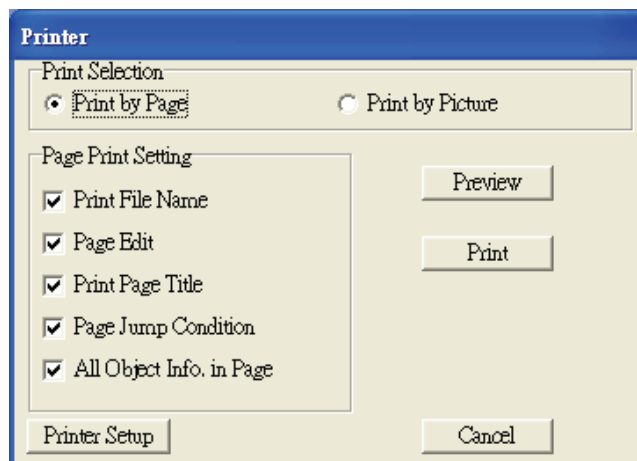

Figure 1-46
Step 2. Then, the following Printer tab will show up (Figure 1-46). The user can choose the way to print, Print by Page or Print by Picture, and select the data needed to be printed out. Clicking Printer Setup button is to set the connected printer.